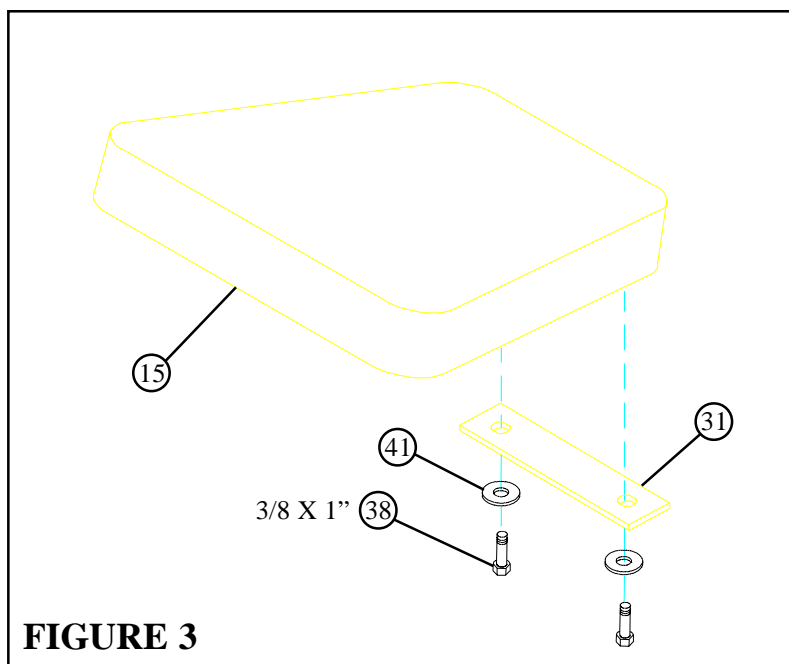

FIGURE 3
- **SECURELY** assemble one 1/8 X 2 X 8" PLATE (31) to the SEAT PAD (15) using two 3/8 X 1" BOLTS (38) and two 3/8" WASHERS (41). See FIGURE 3.